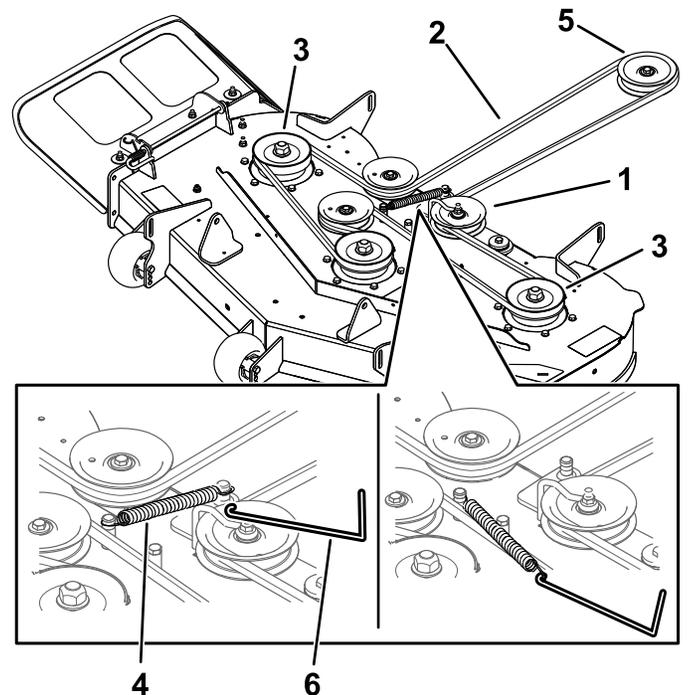

Figure 53
6. Using a spring-removal tool (Toro Part No. 92-5771), remove the idler spring from the deck hook to remove tension on the idler pulley and roll the belt off the pulleys (Figure 53).
7. Route the new belt around the engine pulley and mower pulleys (Figure 53).
8. Using a spring-removal tool (Toro Part No. 92-5771), install the idler spring over the deck hook and place tension on the idler pulley and the mower belt (Figure 53).